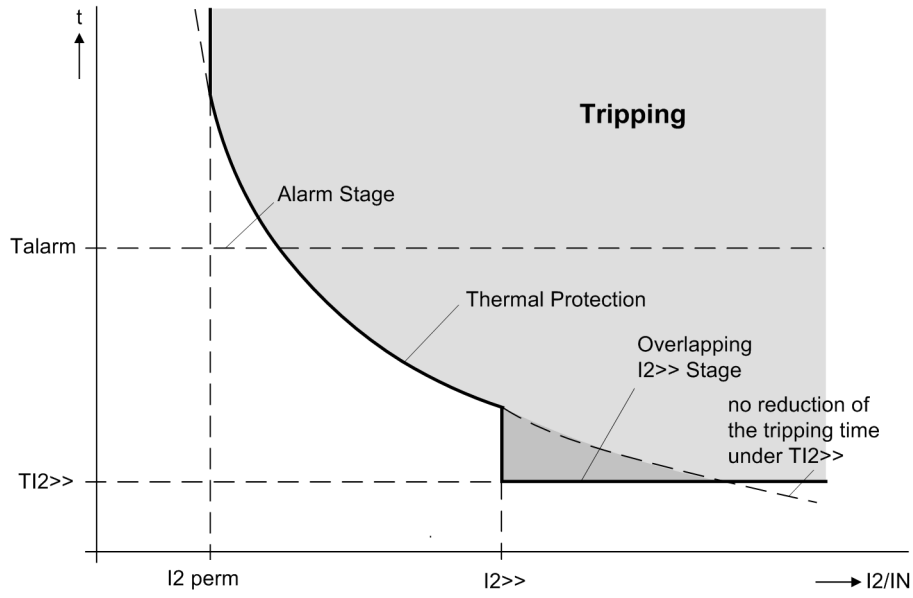

Figure 2-95 Resulting characteristic of the thermal asymmetrical load protection
As the thermal replica only works after exceeding the permissible continuous negative sequence current „I2 adm“, this value is the lower limit for resulting tripping characteristic (Fig. 2-95). The area of the thermal replica connects to it with increasing negative sequence current. High negative sequence currents can only be caused by a phase-to-phase short circuit, which must be covered in accordance with the grading coordination chart. The thermal characteristics are therefore cut off by the definite time I_{2>>}-stage (see above under „Definite time stage (DT)“). The trigger time of the thermal replica does not fall below the trigger time of the I_{2>>}-stage